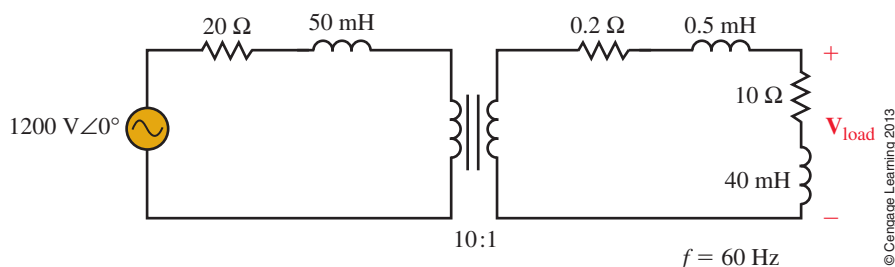

FIGURE 23–87
44. Using Multisim or PSpice, solve for the primary and secondary currents and the load voltage for Figure 23–87. Verify by manual computation.
45. Using Multisim or PSpice, solve for the source current for the coupled parallel inductors of Figure 23–82. Hint: For Multisim, use TS_IDEAL; for PSpice, use XFRM_LINEAR to model the inductors. You will need a very low-value resistor in series with each inductor to avoid creating source-inductor loops.